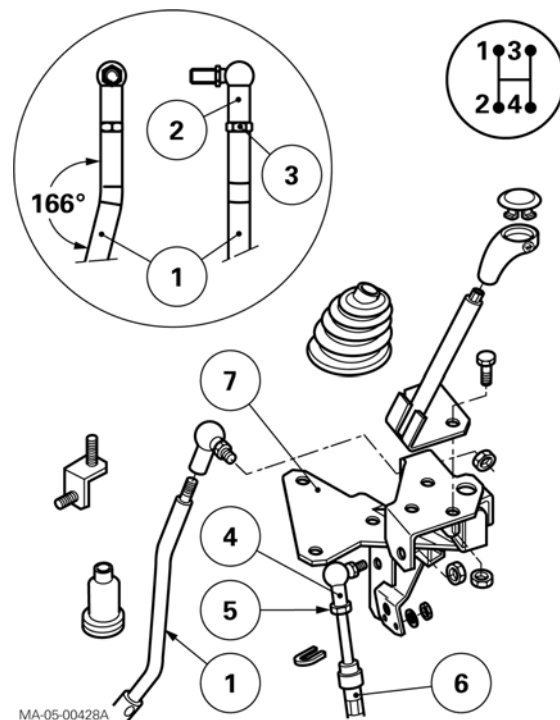

Fig. 11
Preparation (Fig. 11)
64. On the end of the link control rod (1) shaped with an angle of 166° , position the ball joint (2) as shown in Fig. 11. Tighten nut (3).
65. Tighten the ball joint (4) up against the cable (6). Tighten nut (5).
Assembly (Fig. 11)